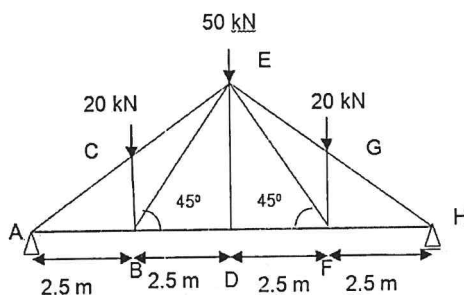

Figure Q.15 (a)
15. a) Find the forces in the members of the truss shown in fig.Q.15 (a) by method of joints.